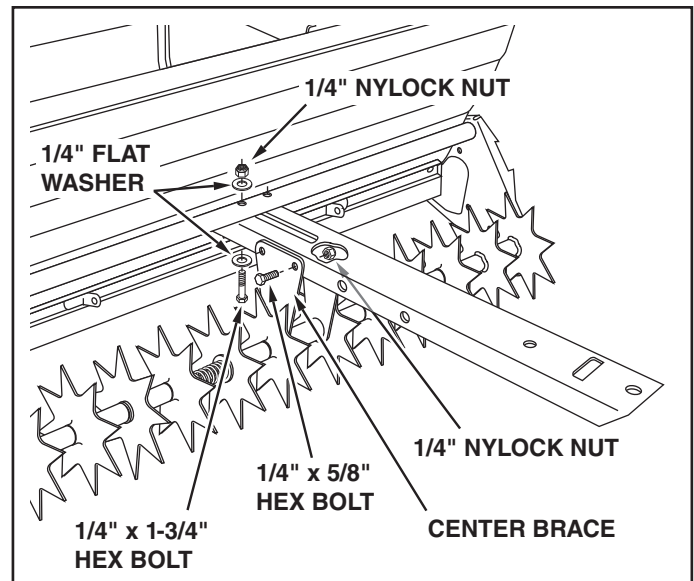

FIGURE 20
27. Attach the tongue to the frame assembly tube using two 1/4" x 1-3/4" hex bolts, four 1/4" flat washers and two 1/4" nylock nuts. **Do not tighten yet.** See figure 20.
28. Attach the tongue to the two center braces using four 1/4" x 5/8" hex bolts and 1/4" nylock nuts. **Do not tighten yet.** See figure 20.